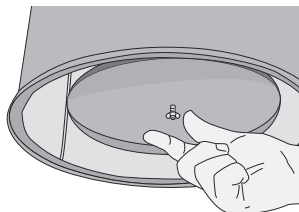
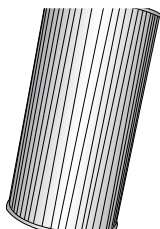

figure 21
figure 23
2. To clean the separator (**figure 21 & 22**)
3. To change the optional cartridge filter (figure23), remove wing nut and lower disc. Change filter and replace disc and hand tighten wing nut.(figure21, p23).